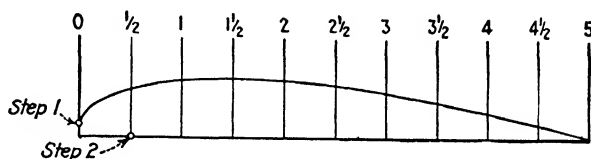

Fig. 180.
Step 1.—At station 0, the lower camber is  $\frac{9}{64}$  in. above the datum line. Notice that this is the same point as that of the upper camber (see Fig. 180).
Step 2.—At station  $\frac{1}{2}$  in., the lower camber is 0 in. high, that is, flat on the datum line as shown in Fig. 180.